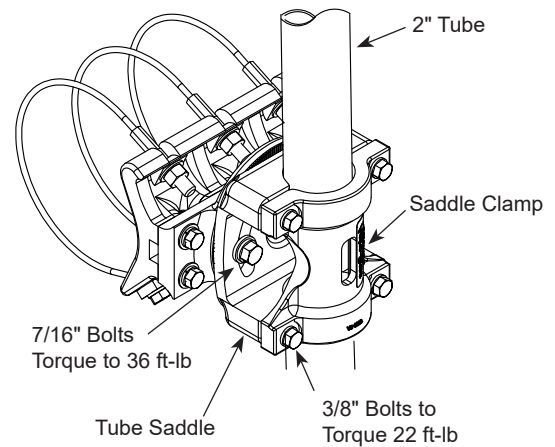

Figure 3
13. Place the support tube assembly in the saddle and place the saddle clamp in position. Install the (4) 3/8" washers, lock washers, and bolts and torque to 22 ft-lb. **DO NOT OVERTIGHTEN.**
14. Install the saddle assembly (with its attachments installed) onto the female clamp and install the (2) 7/16" bolts, lockwashers, and nuts. (Figure 3)
15. Position the assembly as needed and torque the (2) 7/16" bolt to 36 ft-lb. **DO NOT OVERTIGHTEN.**